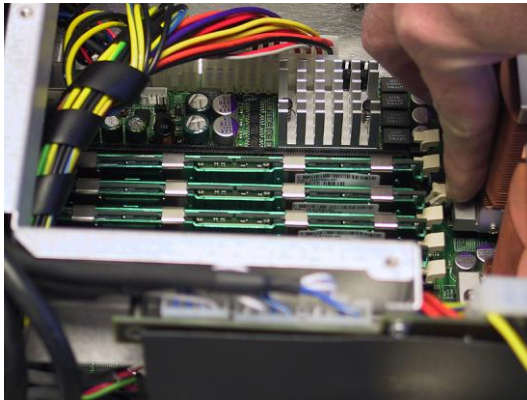
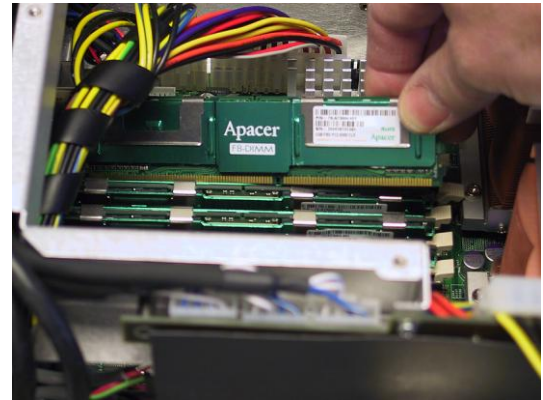

Figure 4-44
Figure 4-45
**Note:** The BIOS will always report the true amount of physical memory that is present in the system. This may be as much as 12 GB. However, the actual amount of memory that can be seen by the system is determined by the main operating system (OS). With regard to the 32-bit Windows® XP Professional operating system, for example, in the case of a MaxPac 8230 XRA2 (dual-screen) configuration, the maximum amount of memory reported in the **System Information** dialog is 3 GB; by comparison, in the case of a MaxPac 8230 XRA3 (triple-screen) configuration, the maximum amount of memory reported in the system information dialog is 2 GB. (Further note that even when the OS reports 3 GB for the dual-screen configuration, the maximum amount of shared user space is actually only 2 GB.) However, with regard to the 64-bit Windows XP Professional x64 Edition of the operating system, the **System Information** dialog will accurately report the true amount of physical memory (which can theoretically be up to 128 GB) and all of this memory will be available to the applications.
- 2) In order to remove and replace a memory stick, gently press down-and-out on the two plastic “rabbit-ears” at either side of the stick which will cause it to pop out (Figure 4-44), and then remove the stick from the system (Figure 4-45).